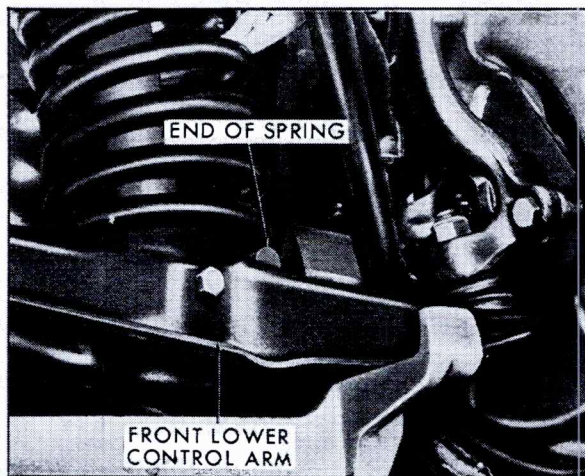

Fig. 3-21 Locating End of Spring
2. Install end of spring in upper seat of frame. If working with left spring, rotate spring until end is flush with front of lower control arm, Fig. 3-21. If working with right spring, end should be flush with rear of right control arm.